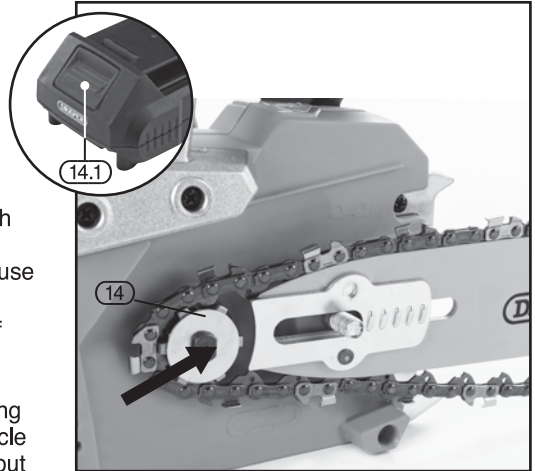

FIG.1
8.1 BATTERY PACK CHARGING – FIGS. 1 – 2
- Press the battery release button (14.1) and gently slide the battery pack off (Fig.1).
- Plug the battery charger (15) unit into a 230V/AC 13amp three pin supply socket.